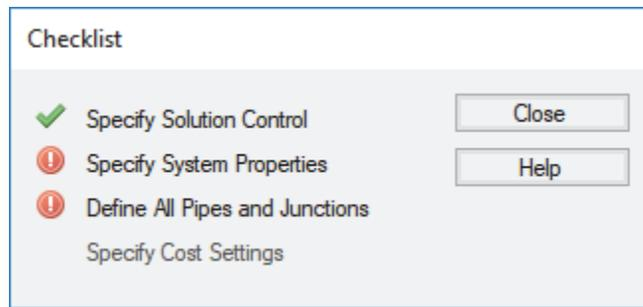

Figure 2.6 The Checklist window tracks the defined and undefined model input
The Workspace window is the initial active (large) window, as seen in Figure 2.6. The five tabs in the AFT Arrow window represent the five primary windows. Each Primary Window contains its own toolbar that is displayed directly beneath the Primary Window tabs.
- **Next, click the checkmark on the Toolbar** at the top of the AFT Arrow window. This opens the Checklist window (see Figure 2.6). The Checklist window (also simply called the Checklist) contains four or more items depending on which modules and features you may be using. Each item needs to be completed before AFT Arrow allows you to run the Solver.